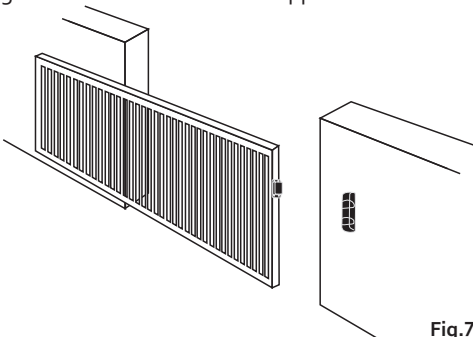

Fig.7 Mounting the sensor on the sliding gate.
2. Mount the AZ-MG magnet on the post, AZ-TX transmitter on the gate (or vice versa), in such a way that the magnet and the transmitter are opposite each other when the gate is closed (Fig.7).